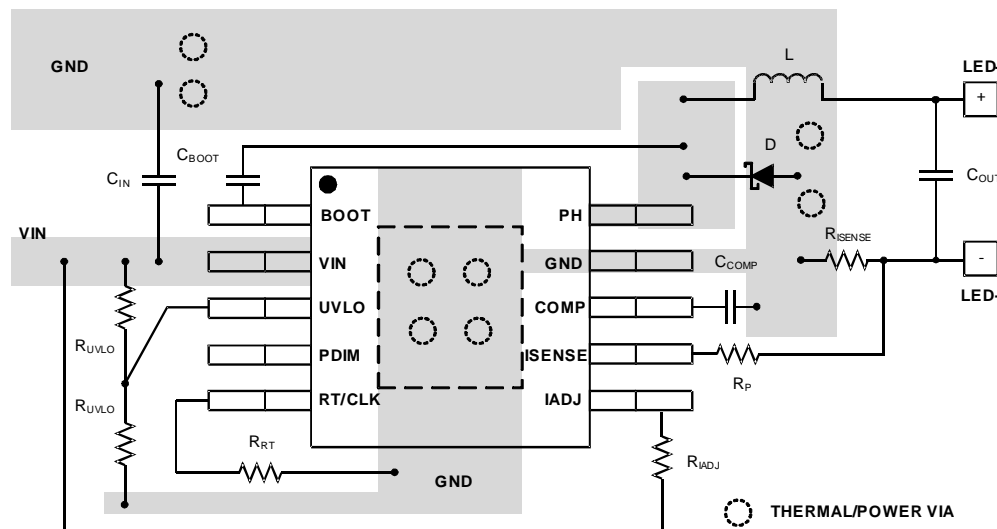

图 17. Layout Example
An example of a proper layout for the TPS92513 is shown in 图 17. Creating a large GND plane under the integrated circuit (IC) for good electrical and thermal performance is important.